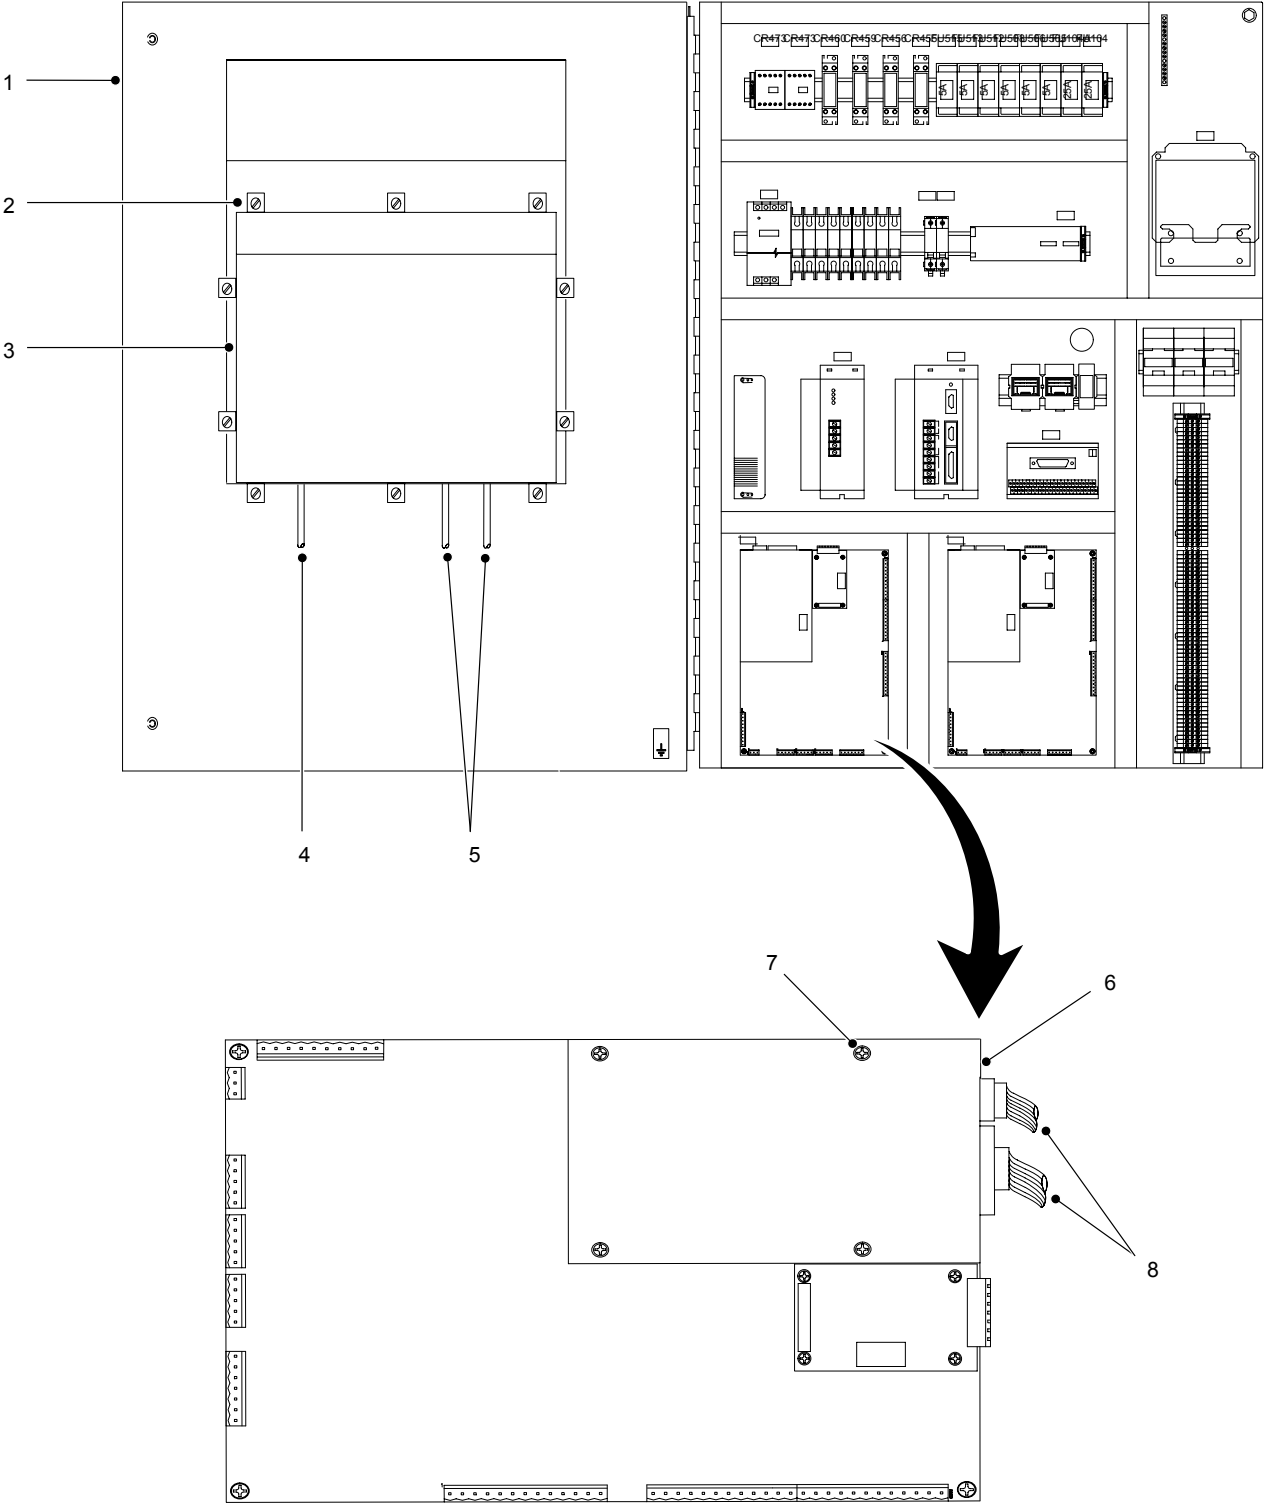

Figure 10 Typical Repairs
2. See Figure 10. Open the enclosure door (1).
3. Disconnect the AC (4) and Serial (5) cables from the operator interface (3).
4. Remove the mounting clips (2) securing the operator interface (3) to the enclosure door (1). Remove the operator interface from the enclosure door (1).
3. Disconnect the electrical connectors (8) from the PCA (6).
4. Remove the screws (7) from the PCA (6).
5. Install the new PCA using the screws (7). Do not over tighten the screws.
6. Connect the electrical connectors (8).
7. Close the enclosure door (1).